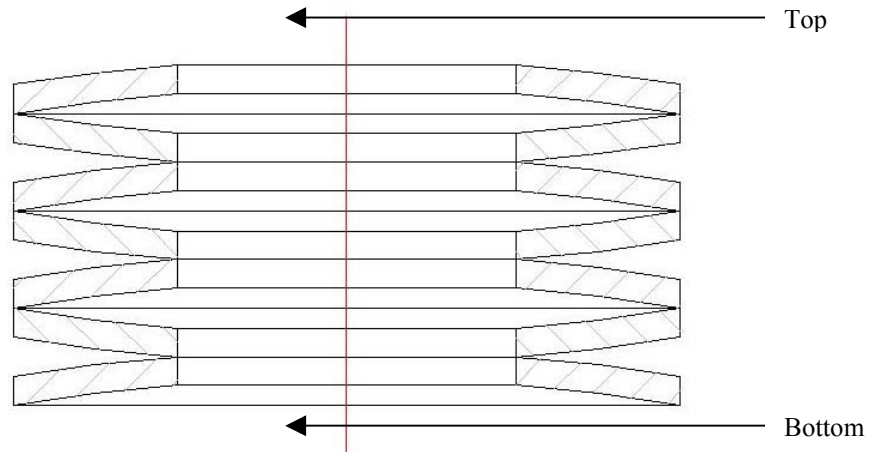

Figure 1: Belleville Washers Orientation
- 2.9 Place seven belleville washers onto each gland flange stud above the flange in configuration as in Figure 1.